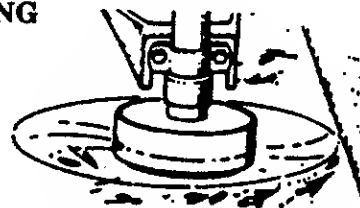

Figure 16
4. **SWEEPING** - Figure 16. The fanning action of the rotating line can be used for a quick and easy clean up. Keep the line parallel to and above the surfaces being swept and move the tool from side to side.